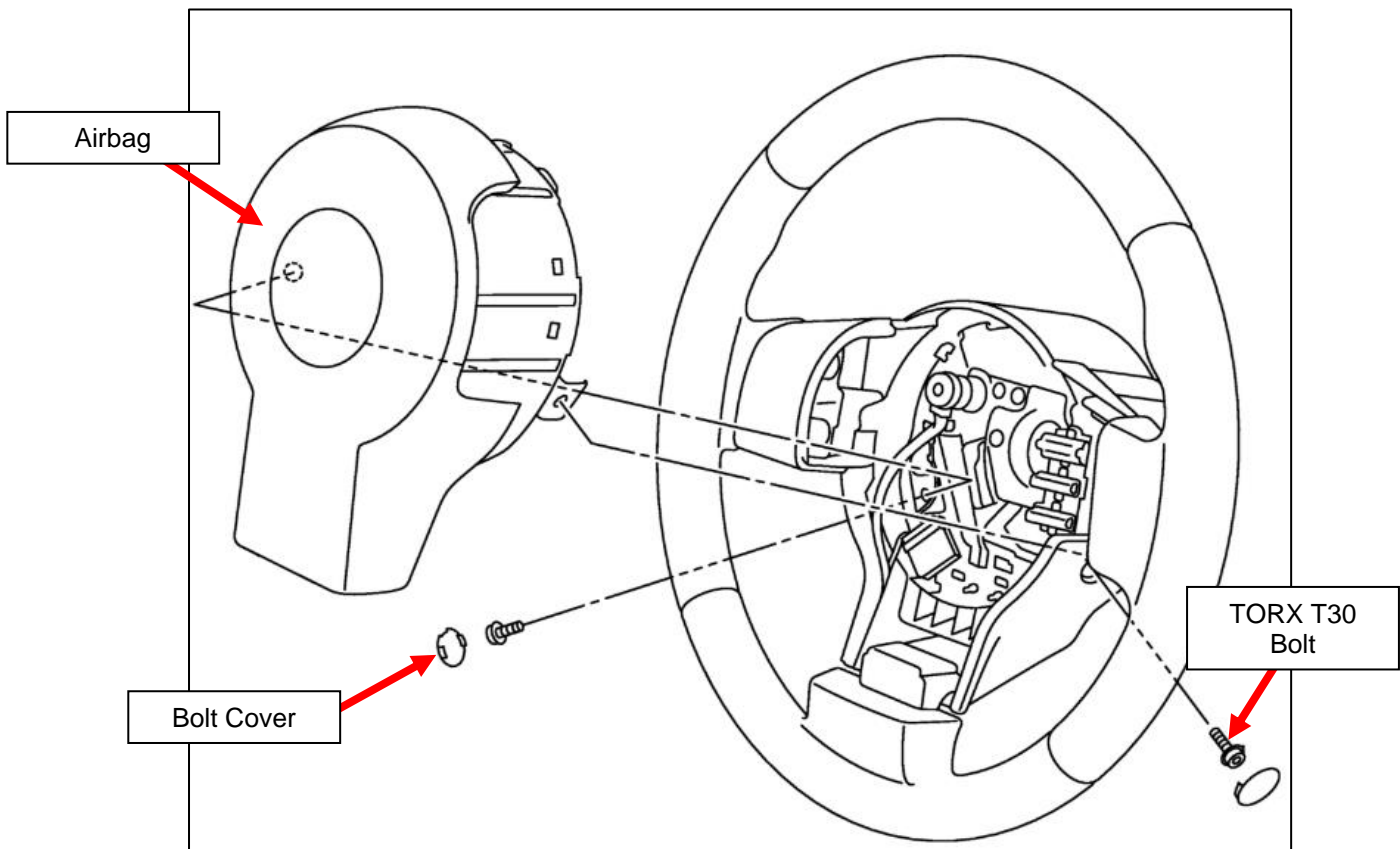

Figure 1
6. Remove the (2) two Covers hiding the (2) two bolts securing the Airbag to the Steering Wheel. *Figure 1.*
7. Remove the (2) two bolts securing the Airbag to the Steering Wheel. These need a TORX Tamper Resistant T30 bit. It is recommended to replace these bolts after removal. *Figure 1.*